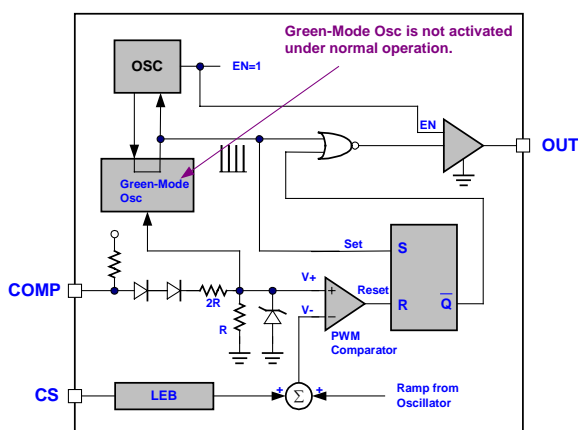

Fig. 10
What LD7550 used to implement the power-saving operation is Leadtrend Technology's own IP^②. In such approach, as shown in the block diagram, 2 oscillators are implemented in LD7550. The first oscillator is to take care the normal switching frequency, which can be set by the RT pin through an external resistor. Under this operation mode, as shown in Fig. 10, the 2nd oscillation (green-mode oscillator) is not activated. Therefore, the rising-time and the falling-time of the internal ramp will be constant to achieve good stability over all temperature range. Under the normal operation, this oscillator is dominated the switching frequency.